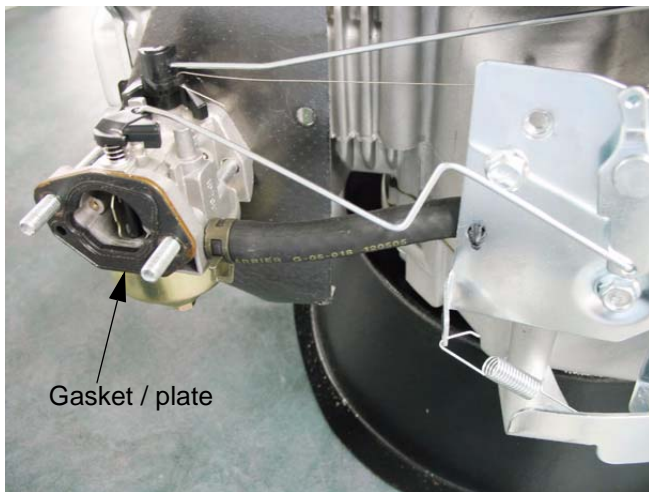

Figure 3.4
**NOTE:** Behind the filter housing is a steel plate with formed rubber gaskets vulcanized to each surface. See Figure 3.4.